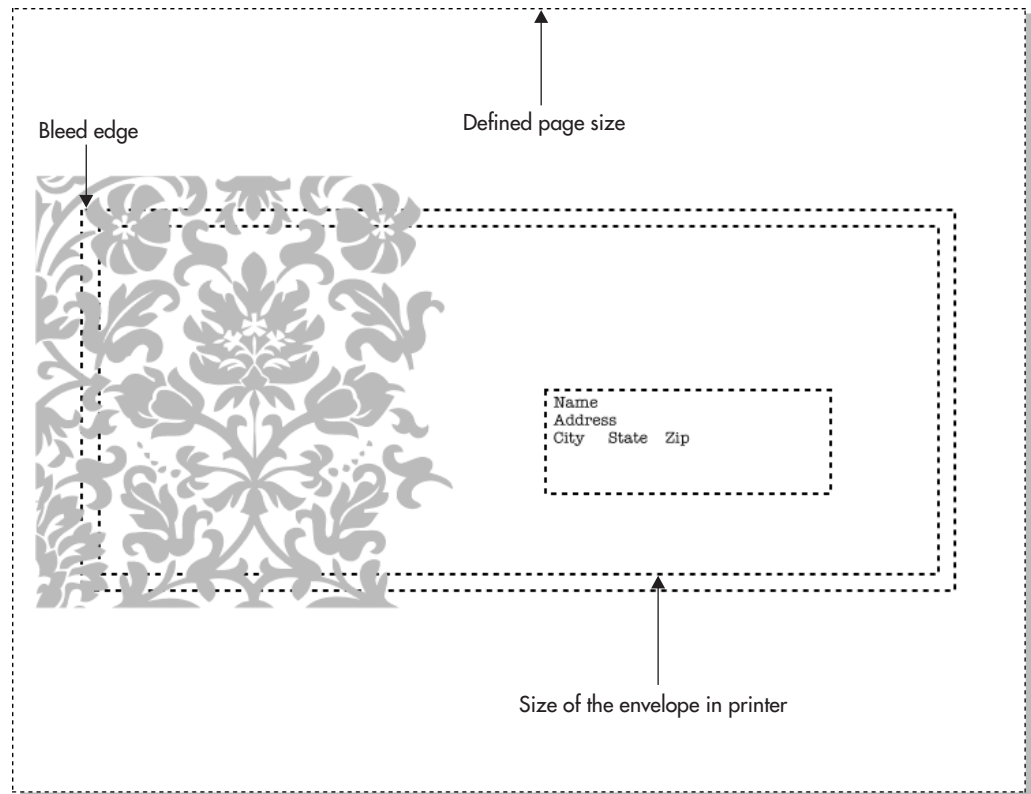

FIGURE 6-2 Creating the bleed design on the envelope
4. Place your design in your page border, but overlapping the printable page area in the position in which you want the design to bleed to the left, as shown in Figure 6-2.